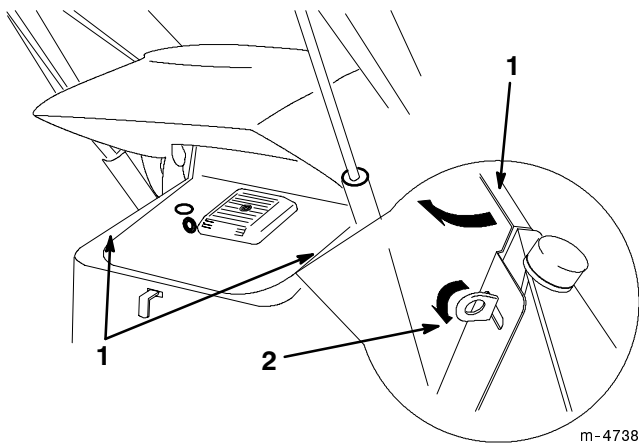

Figure 20
2. Pull out and turn the two locking tabs on the inside of the side screen until they line up with the slots in the screen (Fig. 20).
3. Slide the slots in the screen over the locking tabs (Fig. 20).
4. Turn the tabs and fold them down to lock the screen in place (Fig. 20).